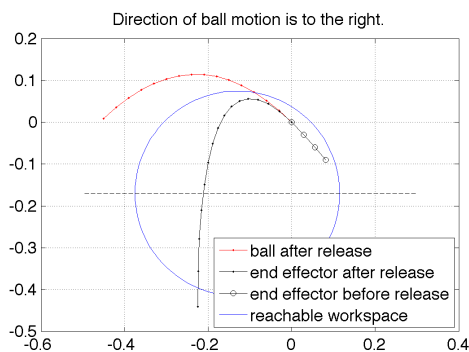

Figure 1a. Ball, end effector trajectories, workspace.
- Task space trajectories for the ball and for the end effector, similar to Figure 1a, including the ballistic (free falling) trajectory of the ball, after it leaves the arm.